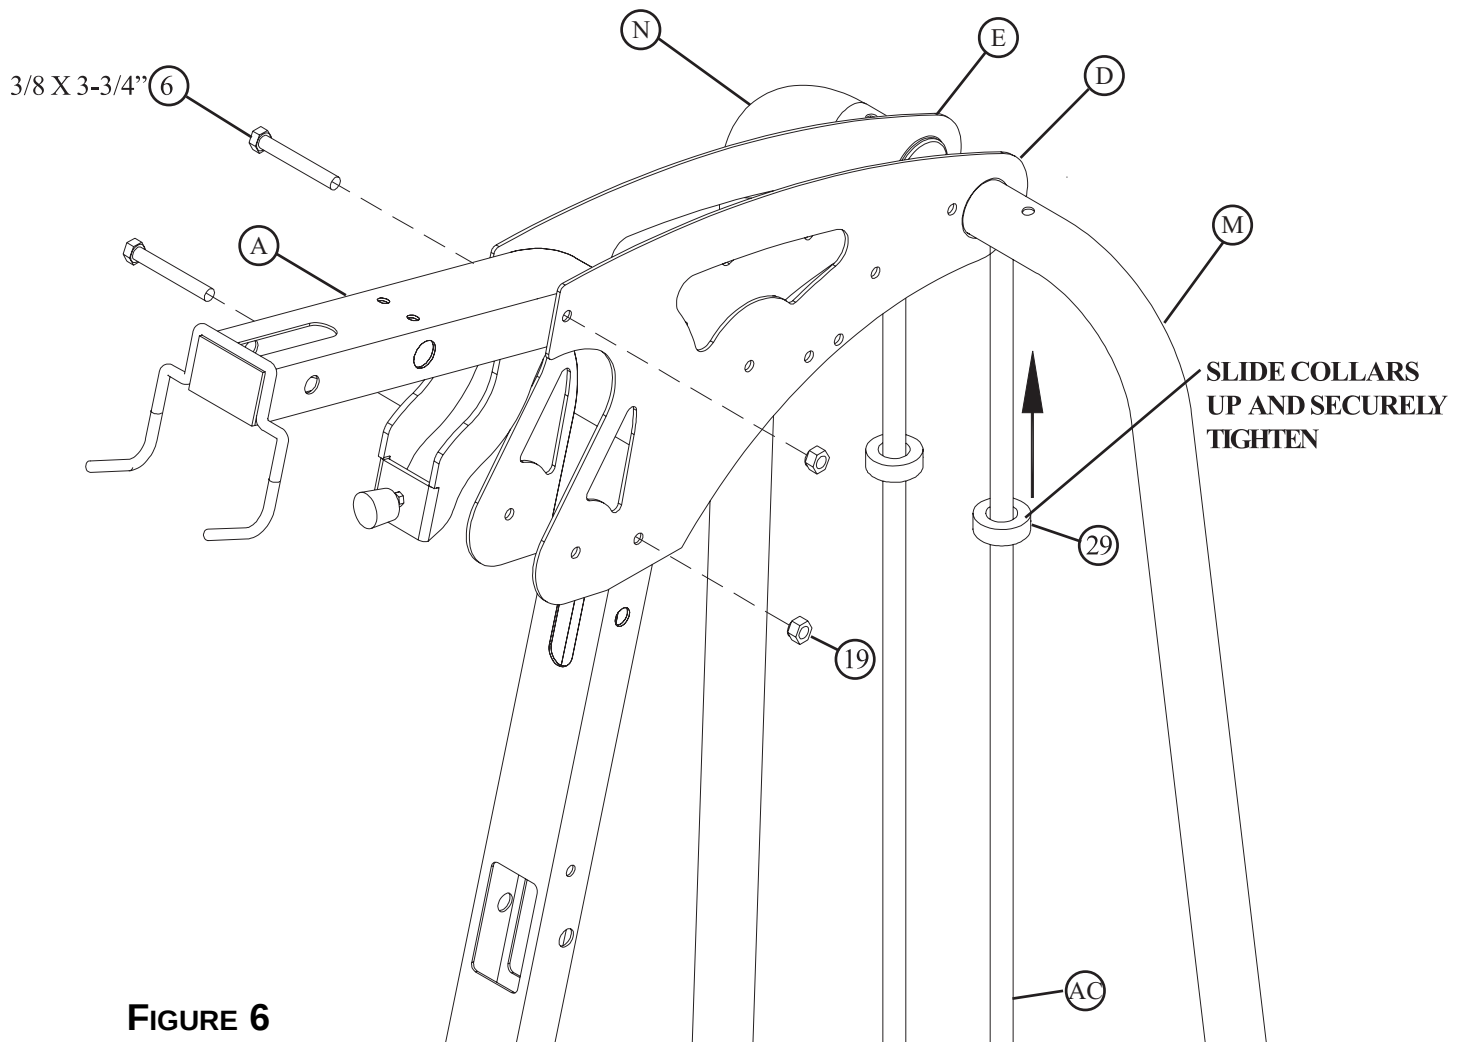

FIGURE 6
- SECURELY assemble the LEFT (D) and RIGHT (E) BOOM PLATES to the FRAME (A) using two 3/8 X 3-3/4" BOLTS (6) and two 3/8" SILVER LOCK NUTS (19). See FIGURE 6.
- Slide up both SHAFT COLLARS (29) to the top until flush with the bottom of the guide rod bushings in both the LEFT (M) and RIGHT (N) REAR UPRIGHTS and **SECURELY TIGHTEN** as shown in FIGURE 6.